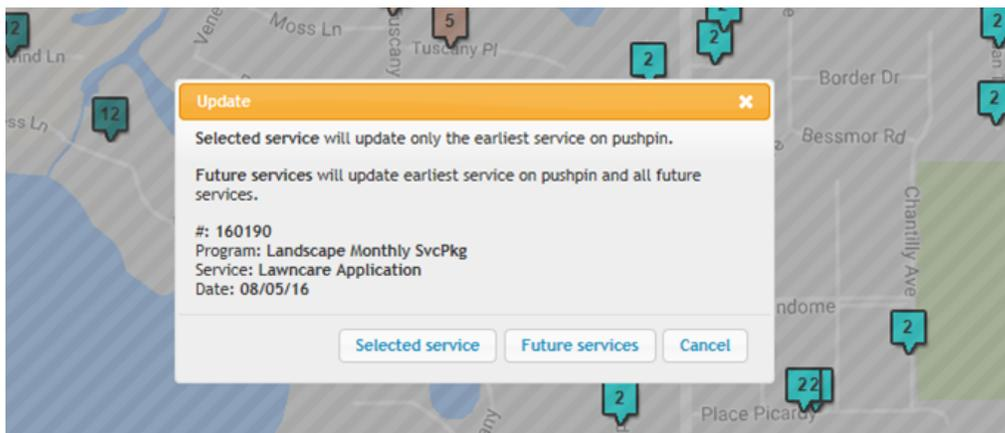

Figure 15
3. A dialog box will pop up asking if you would like to change the current service or future services. (Fig. 15) Selected service will update only the earliest service on pushpin. Future services will update earliest service on pushpin and all future services. Choose the appropriate option for the scheduling session. You will have to complete this step for each service that was moved.